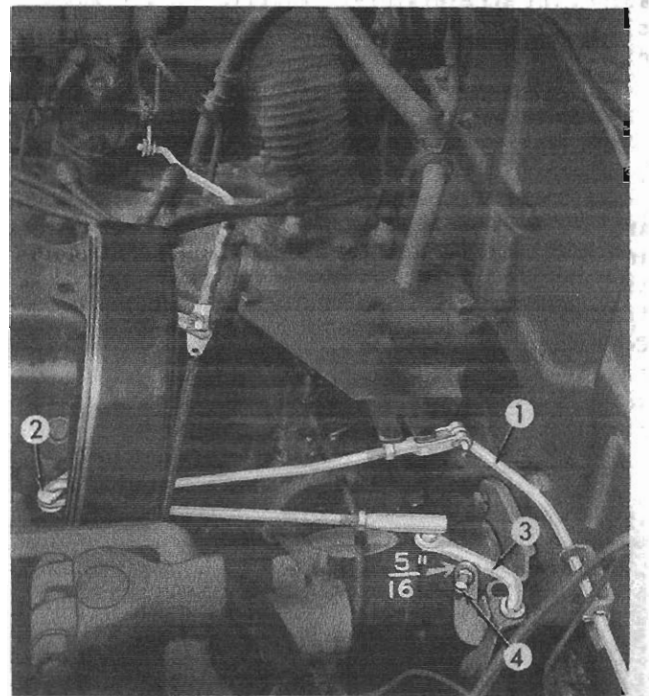

Fig. 2
Set the selector lever in the P or N position and operate the engine until it reaches operating temperature and the carburetor choke is in the wide open position. Disconnect the rod which connects the accelerator bracket (1, Fig. 2) to the auxiliary bellcrank (2) by removing the clevis pin from the clevis.